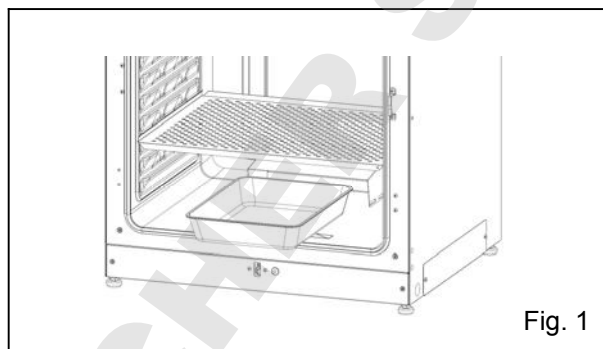

Fig. 1
1. Pull out the humidifying pan toward you. (Fig. 1)